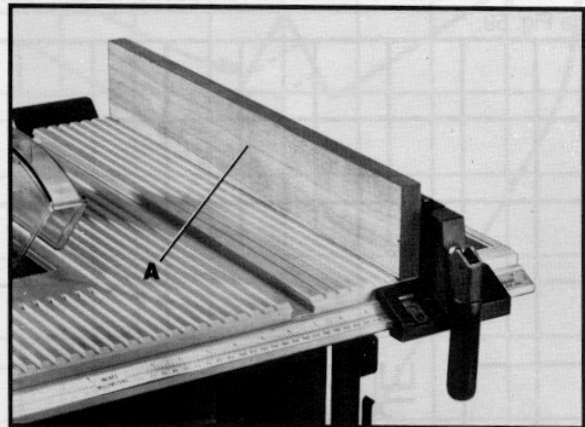

Fig. 57
It is necessary when performing some special operations to add wood facing (A) Fig. 57, to one or both sides of the rip fence, as shown. The wood facing is attached to the fence with wood screws through the holes in the fence. 3/4 inch stock is suitable for most work although an occasional job may require 1 inch facing.